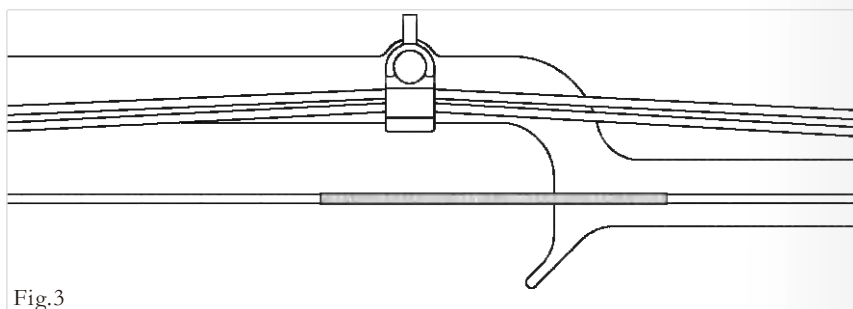

Fig.3
- The Dual-Cam system could make draw length adjustment by rotating the cam module to different positions. The string assembling should be symmetrical between the top and the lower. There are different grooves on the cable slide to prevent the mutual wear between 2 cables. (Fig. 3)